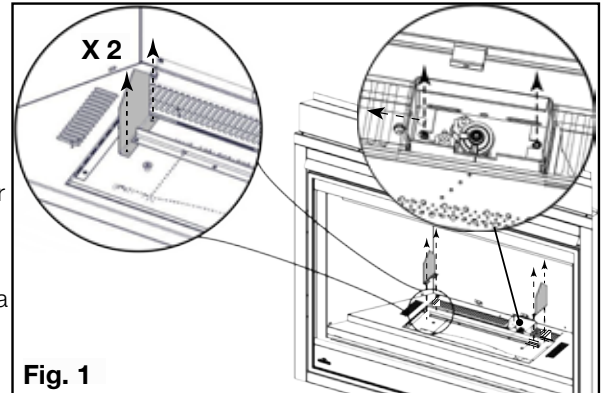

Fig. 1
- ☐ 2. Remove both screws securing each air cover to the burner assembly (**Fig. 1**). Set aside.
- ☐ 3. Remove 3 screws and the pilot shield (**Fig. 1**). Set aside.